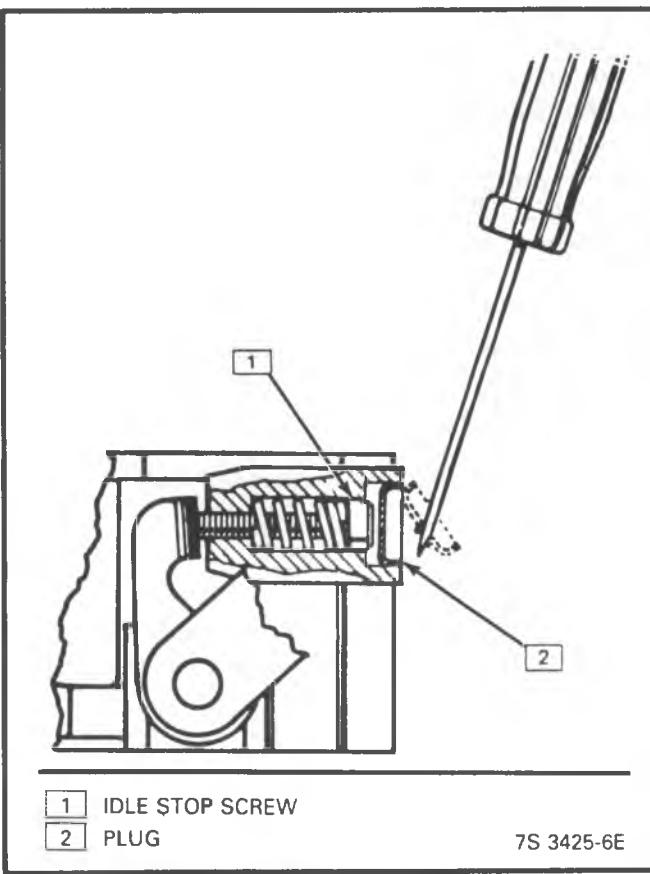

Figure 4-38 - Removing Idle Stop Screw Plug - TBI 700
- Remove the plug, by first piercing it with an awl, then applying leverage (Figure 4-38).